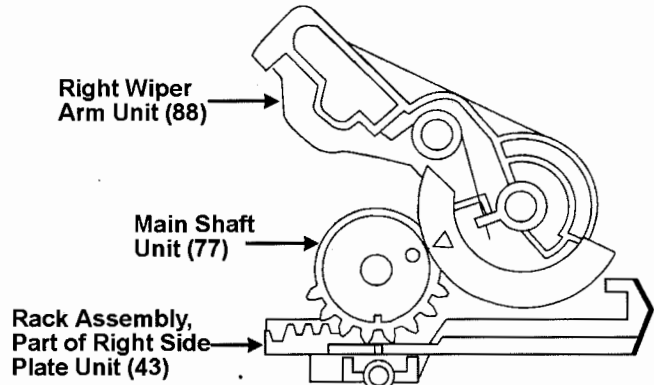

Figure 6
Align the main shaft unit (77) with the rack assembly, part of the right side plate unit (43). Align the right wiper arm unit (88) with the main shaft unit. See figure 6.